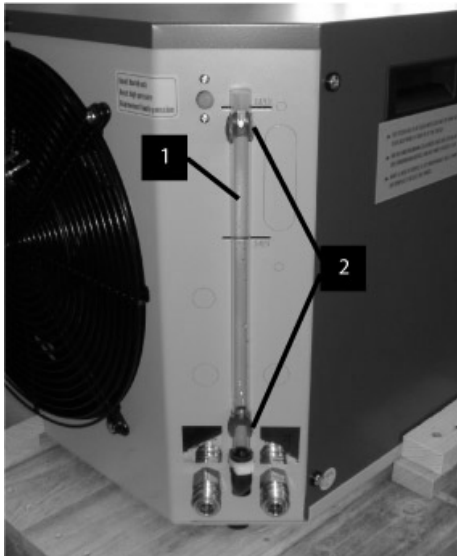
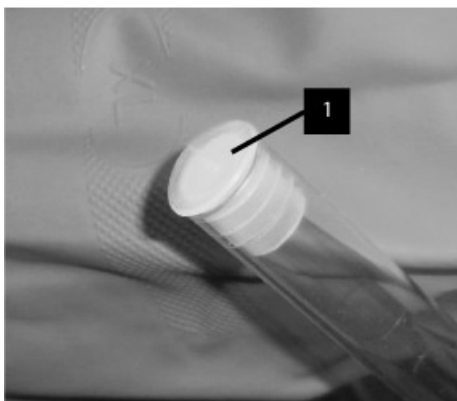

Fig. 54
Fig. 55
2. Take the water sample by use of the level indicator (Fig. 54/1).
For that carefully pull the level indicator out of the retaining brackets (Fig. 54/2).
3. Remove the cap (Fig.55/1) from the level indicator (Fig. 54/1). It will be used again after water sampling.
6. Refit the level indicator cap (Fig. 55/1) after water sampling. Carefully insert the level indicator in the retaining brackets (Fig. 54/2) to its original position.